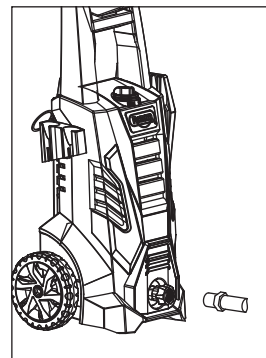

Figure 14 - Attach garden hose to unit
10. Attach garden hose to unit (See Figure 14).